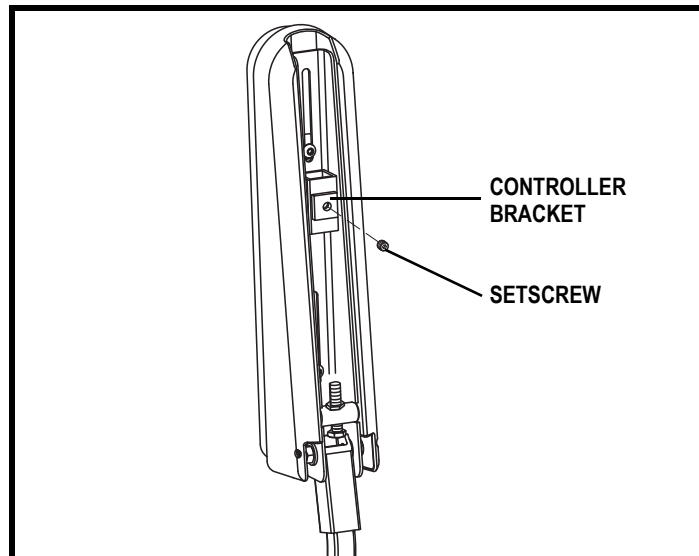

Figure 17. Controller Adjustment
2. Loosen the setscrew on the controller bracket. See **figure 17**.